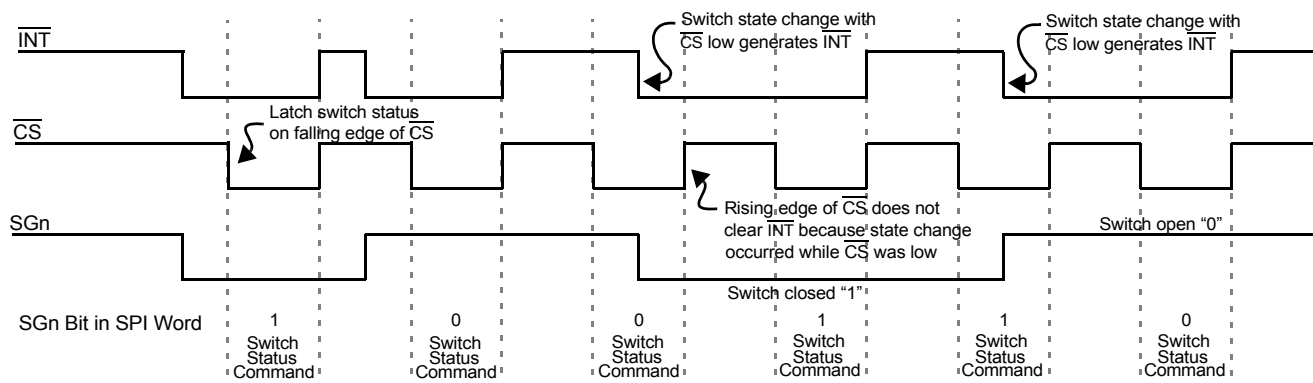

Figure 6. Normal Mode Interrupt Operation
2. \overline{INT} pin is reset to logic [1], except when additional switch changes occur during \overline{CS} low. (See Figure 6.)
Figure 6 is a graphical description of the device operation in Normal mode. Switch states are latched into the input register on the falling edge of CS. The INT to the MCU is cleared on the rising edge of CS. However, INT will not clear on rising edge of CS if a switch has closed during SPI communication (CS low). This prevents switch states from being missed by the MCU.